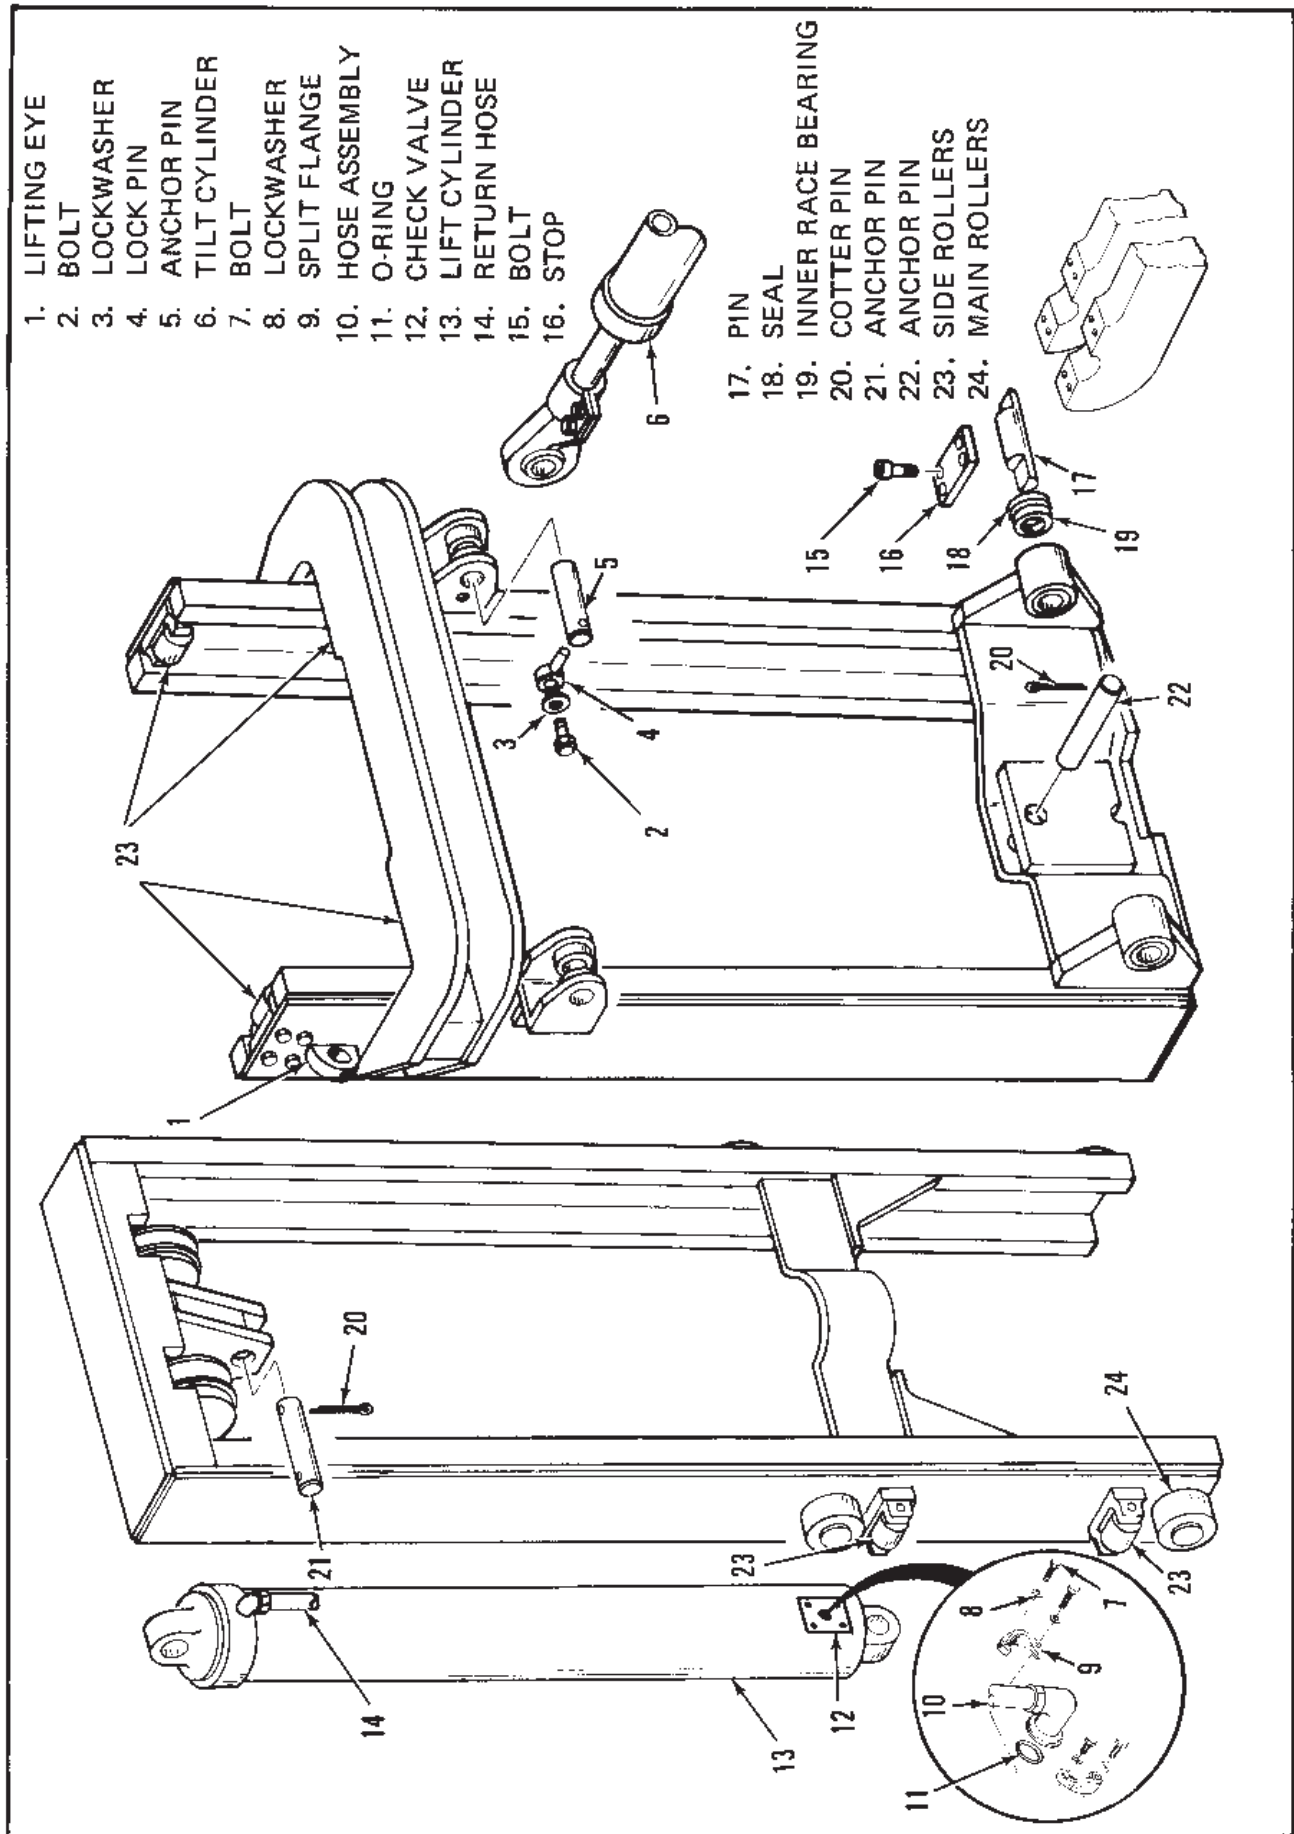
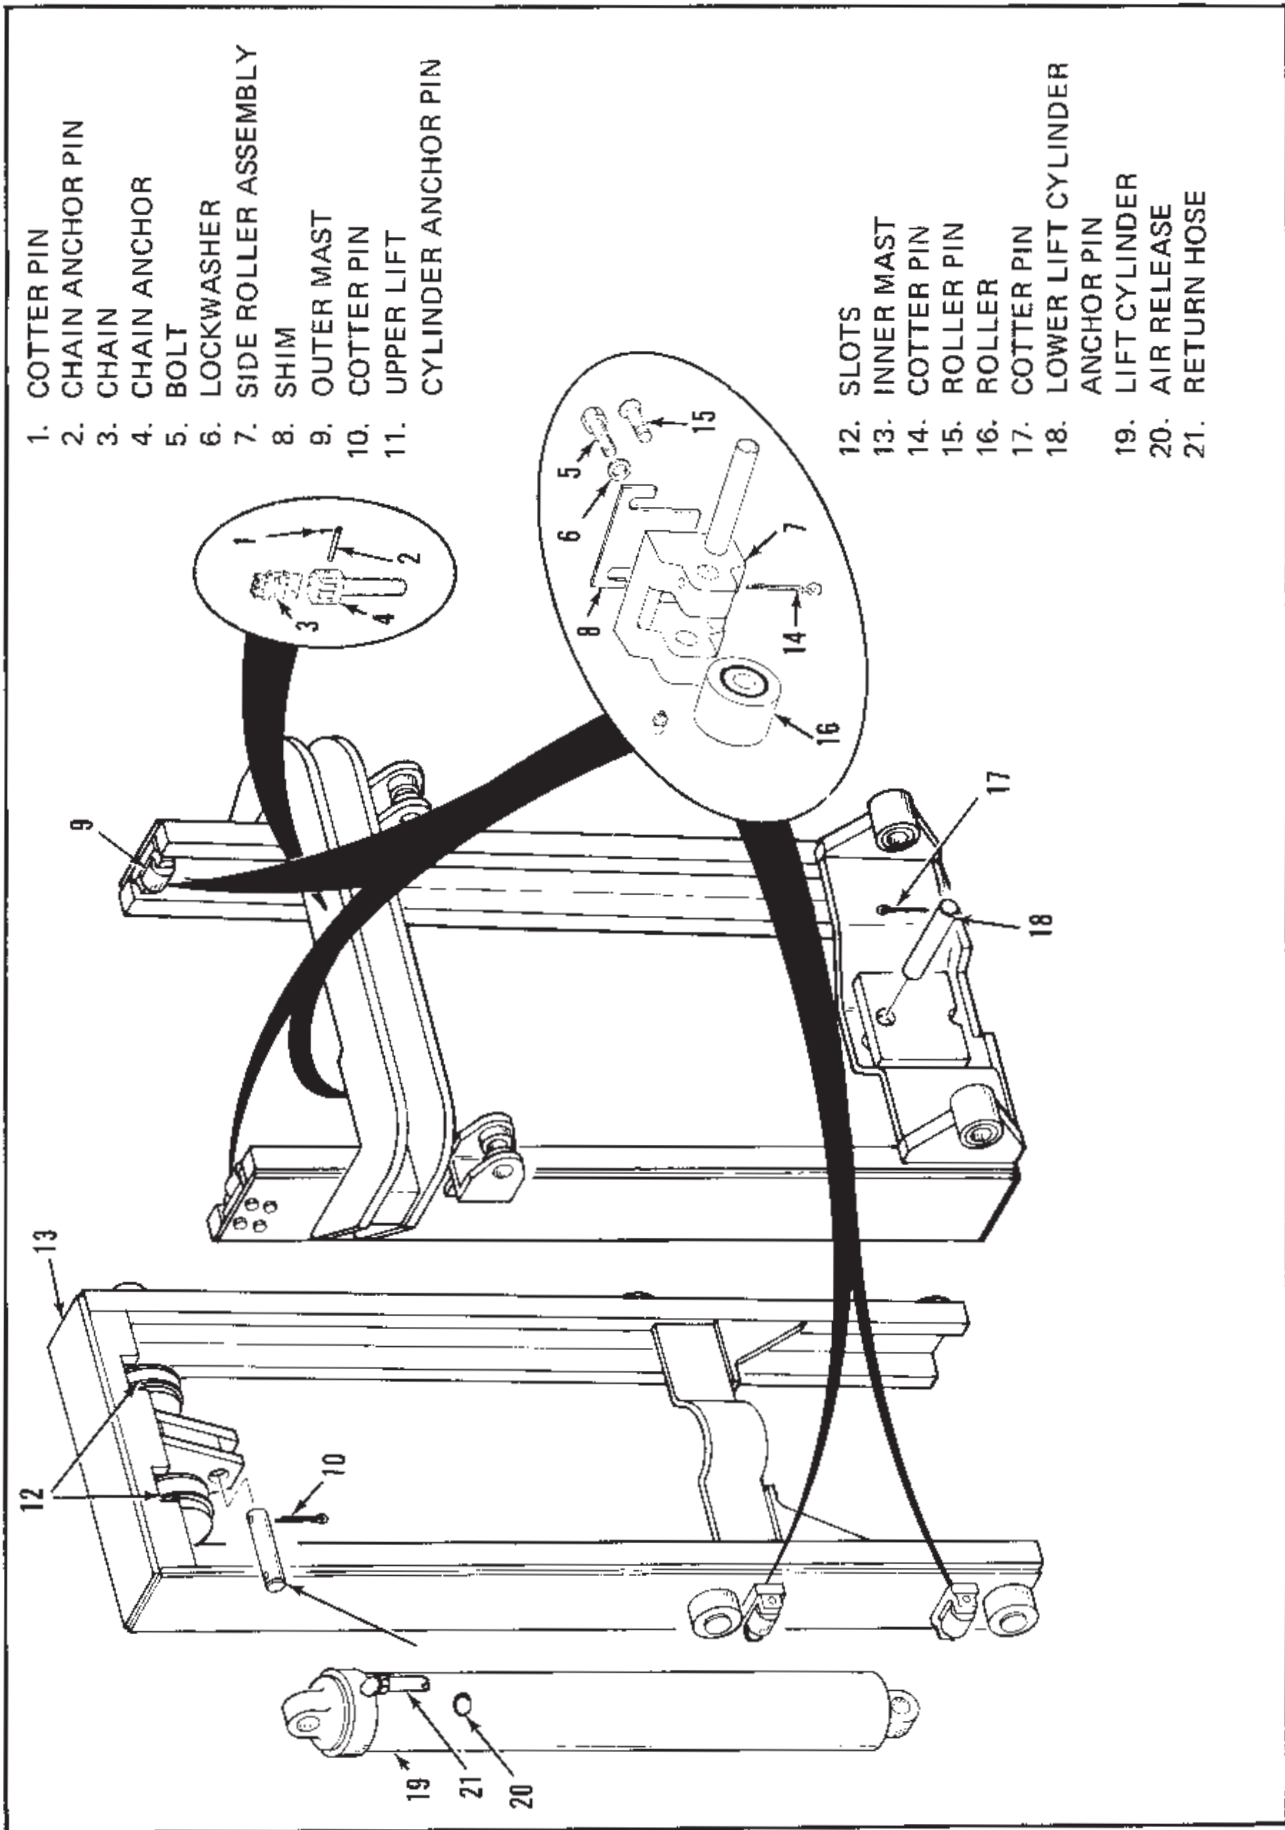

Figure 27-1. Telescopic Mast Assembly
Figure 27-3. Removing Inner Mast
COMPLETE MAST (Figure 27-1)
1. Removal. (Figure 27-3)
d. Lower the lift cylinder only enough to relieve pressure on the upper lift cylinder anchor pin (11, Figure 27-3).
e. Remove the cotter pin (10) and upper lift cylinder anchor pin (11).
h. Remove the bolt (7, Figure 27-1), lock-washer (8), split flange (9), hose assembly (10), O-ring (11), and lift cylinder check valve (12) from the lift cylinder (13).
i. Disconnect the lift cylinder return hose (14) from the top of the lift cylinder (13).
j. Remove the cotter pin (17, Figure 27-3) and remove the lower lift cylinder anchor pin (18).
k. Operate the hoisting device and remove the lift cylinder (19).
BLEEDING LIFT CYLINDER (Figure 27-3).